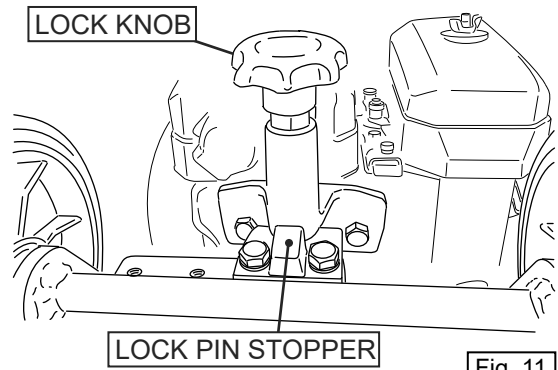

Fig. 11
4. After the lock pin stopper touches the lock pin, the lock pin moves up, and once it fits into the stopper hole, it moves down automatically. Revolve until the lock pin is set to this locked condition. (Fig. 11)